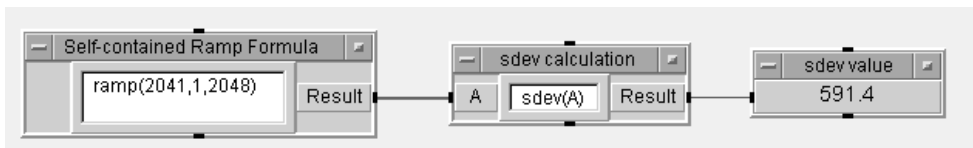

Figure 5.6. Self-contained Formula program after running
- 22. Run this program; save again as LAB5-2b. See Figure 5.6.